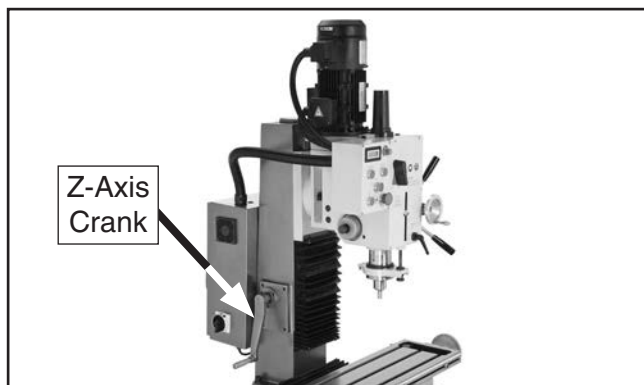

Figure 22. Z-axis crank.
3. Use Z-axis crank shown in **Figure 22** to adjust headstock height.